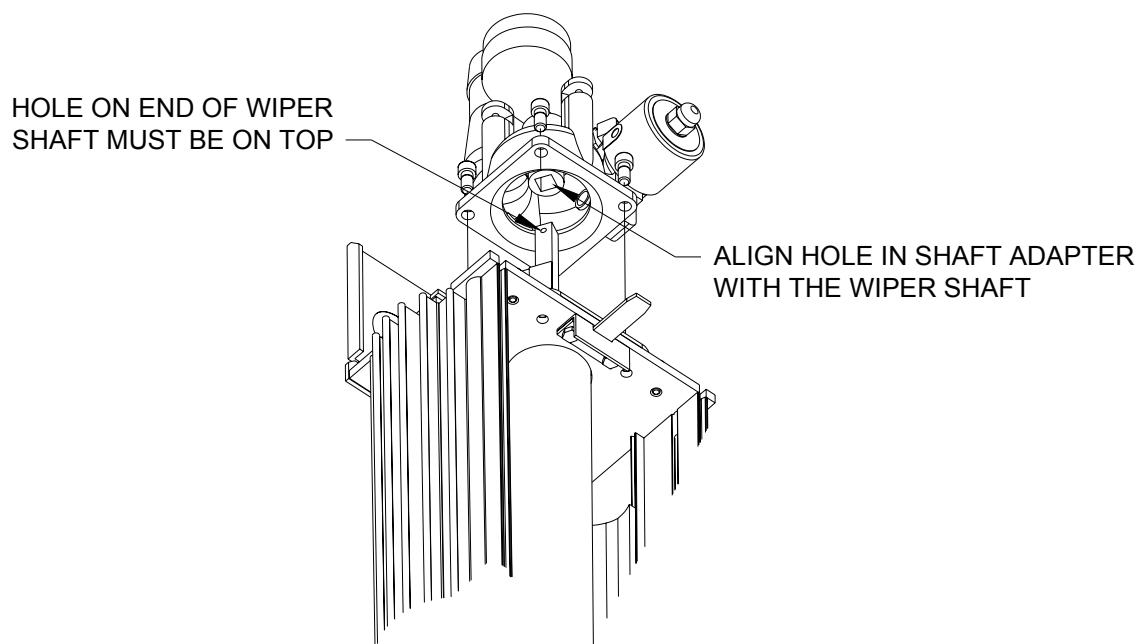

Figure 4E
Step 3: Once the quartz is clean, reassemble the unit (see Figure 4E). Replace any seals that appear to have been damaged.
Step 1: Replace the wiper assembly (21) carefully in the quartz sleeve. The hole on the end of the shaft must be up. Turn the wiper assembly counter-clockwise (looking from the top) as it is being inserted into the quartz – this will make the task easier and align the wiper blades properly. Wetting the inside of the quartz with water will also make the task easier.
Step 2: Ensure the quartz O-ring seal (37) is in place around the quartz sleeve and then replace the top quartz seal assembly by aligning the shaft adapter with the wiper shaft (see Figure 4E). Rotate wiper shaft to suit.
Step 3: Tighten the fasteners (29) in an alternating pattern. Bundle the wires if necessary.
Step 4: Reconnect the flexible hoses (1), both top and bottom. Close the front panel.